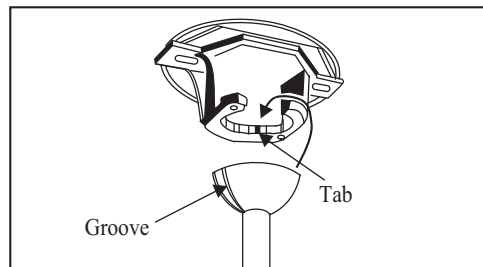

Figure 10
4. Carefully lift the fan assembly up to the ceiling mounting bracket and seat the hanger ball in the mounting bracket socket. Make sure the tab on the mounting bracket socket is properly seated in the groove in the hanger ball (Figure 10). This will help to balance the ceiling fan.